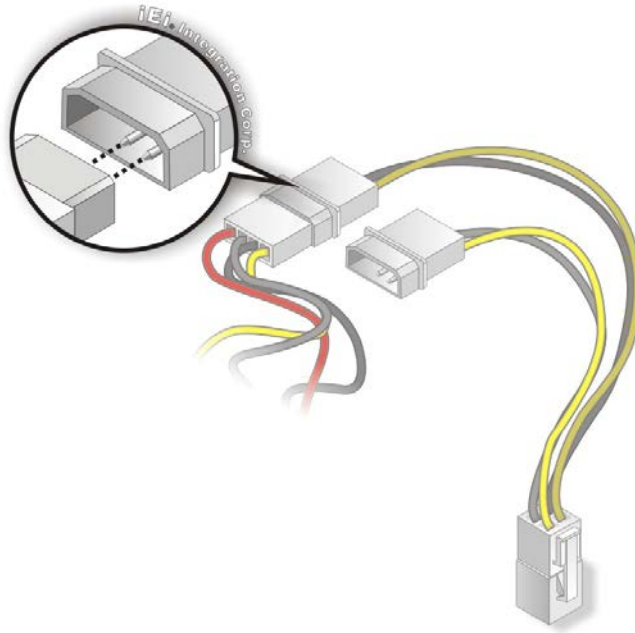

Figure 4-11: Connect Power Cable to Power Supply
Step 3: Connect Power Cable to Power Supply. Connect one of the 4-pin (1x4) Molex type power cable connectors to an AT power supply. See **Figure 4-11**.